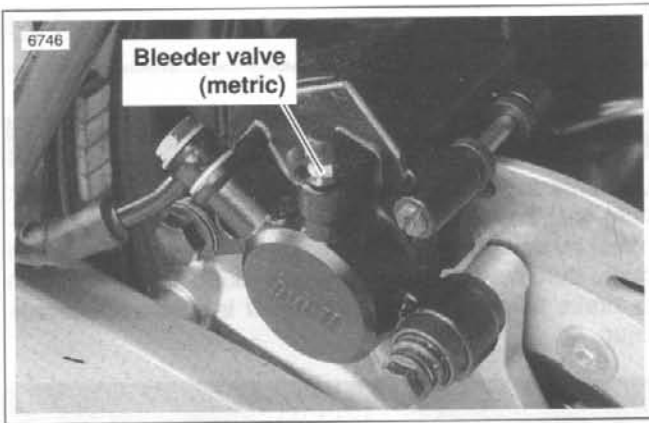

Figure 1-27. Rear Brake Caliper Bleeder Valve
- b. Rear brake caliper bleeder valve-Figure 1-27.